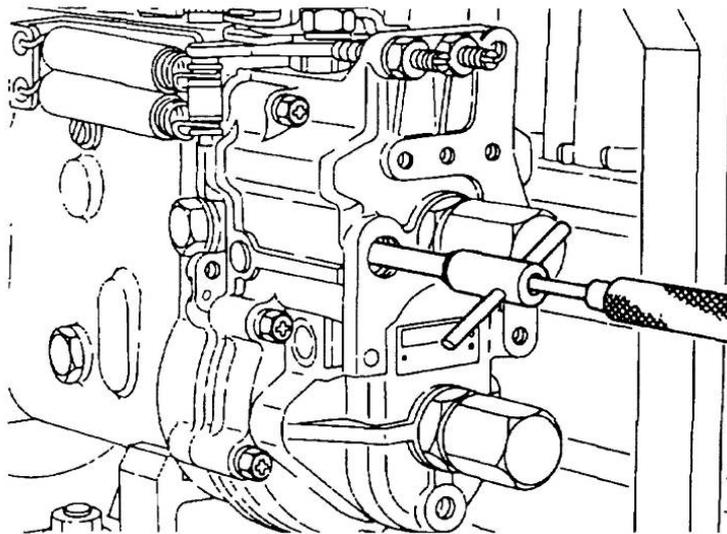

Figure 128 Adjustment of the Torque Cam Control Rod
- t. Set the pump speed to 225 rpm and with special tool 157913-3620, adjust the nut on the torque cam control rod (Figure 128) to bring the control rack to 11.15 mm. Once the correct adjustment has been made, lock the adjusting nut with the lock screw.